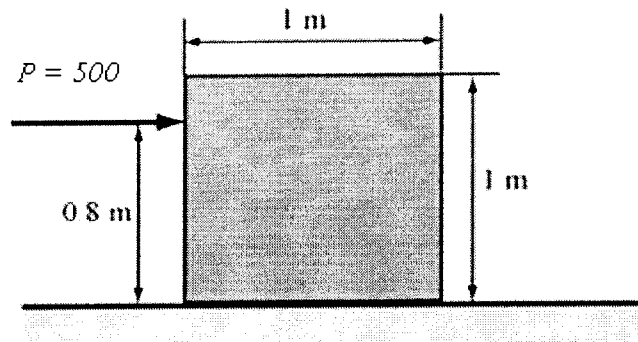

Figure Q1[a]
- Q1. [a] A uniform 40 kg crate rests on a horizontal surface for which the coefficient of kinetic friction is $\mu_k = 0.2$. Determine the crate's acceleration if a force of $P = 500$ N is applied to the crate as shown in Figure Q1[a].